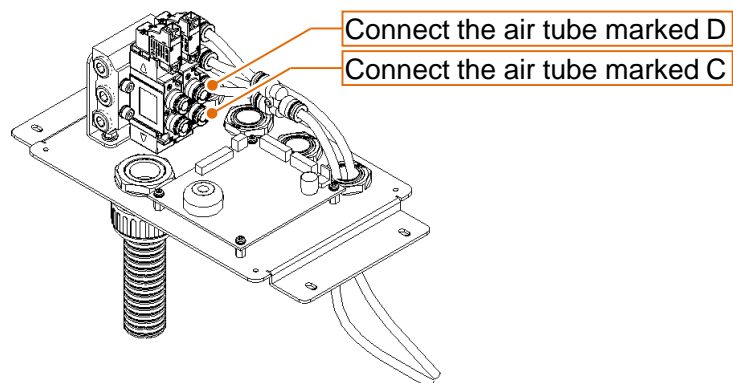

Fig. 23 Connecting the air tubes to the solenoid valve
12. Connect the air tubes to the solenoid valve attached in step 9. Connect as shown in Fig. 23, being careful to follow the markings on the air tubes. The figure shows an example when installing the AD-4981-FL3585 left arm; for the AD-4981-FR3585 right arm, read marking C as marking A and marking D as marking B for connection.